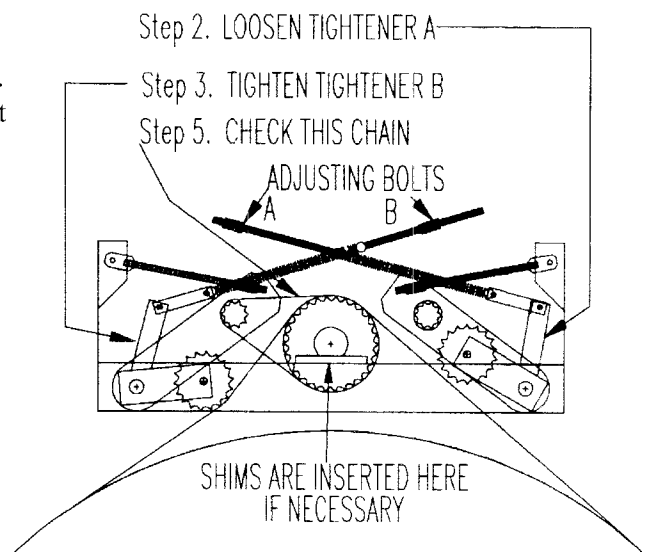

Figure 9 Adjusting Tub Chain Tension
2. Loosen idler A so it does not touch the chain, See Figure 9.